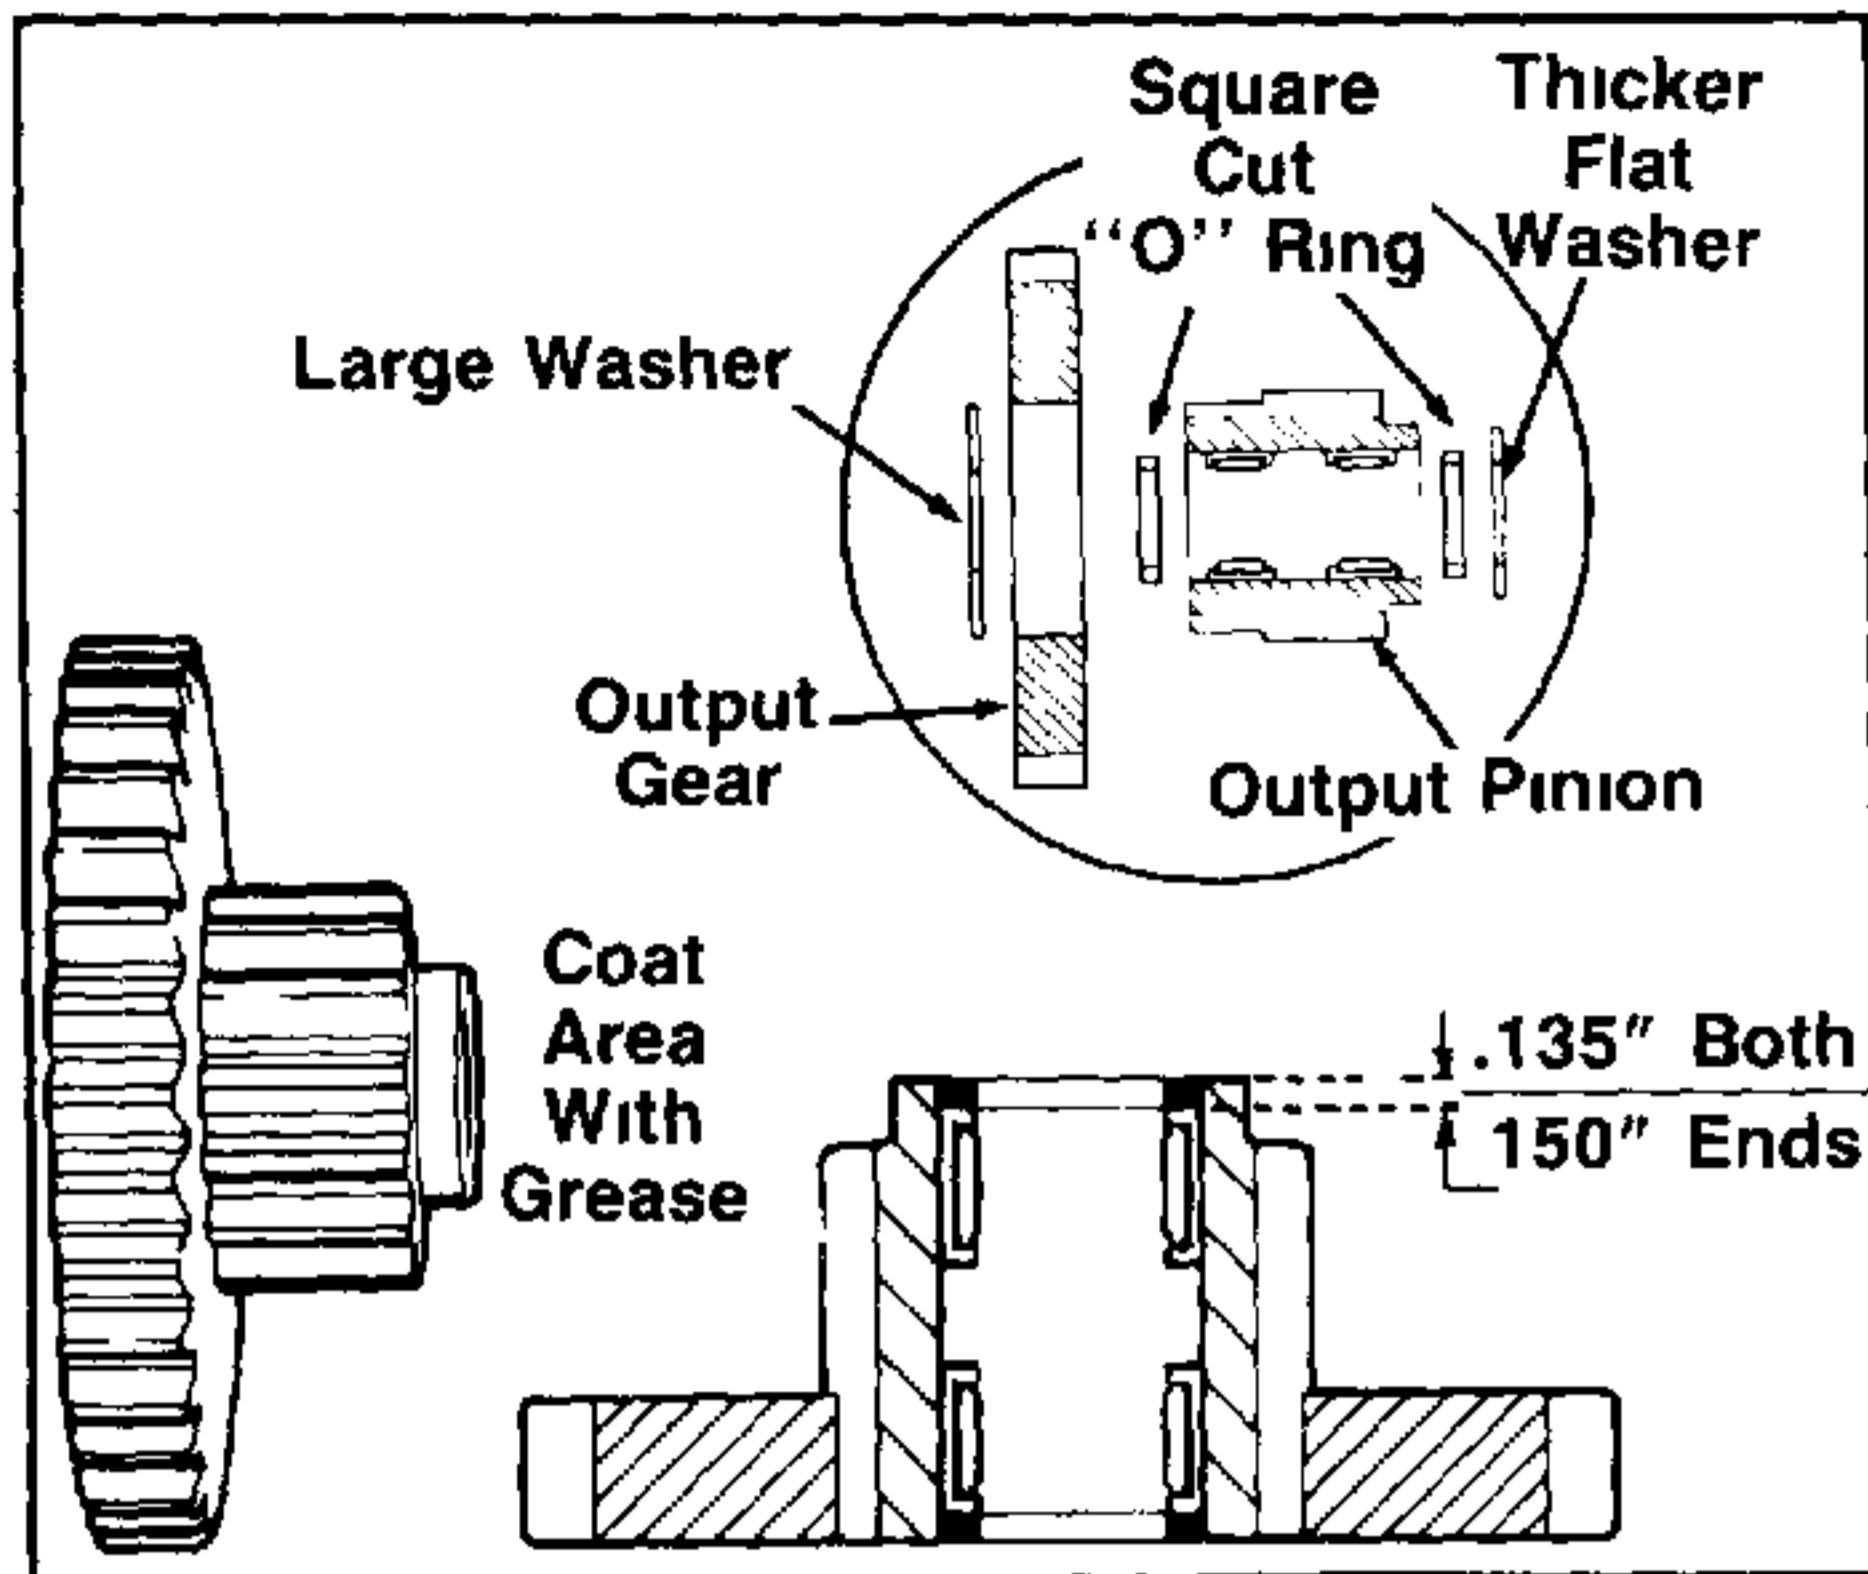

FIGURE 28
- 7 For correct positioning of the needle bearings use removal and installation Tool Part No TC 670252 Fill the area between the needle bearings with grease before installing on the countershaft See figure 28